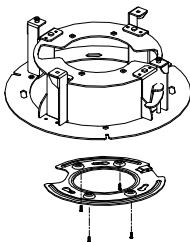

Figure 2-51 Fix the Base Plate to In-ceiling Bracket
- Dimensions of wall-mounted PTZ bullet camera is shown in Figure 2-51.